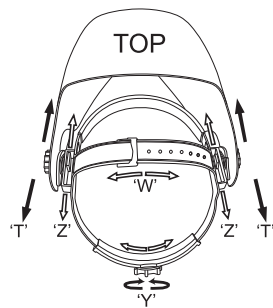

Fig.1
- Loosen the block nut on either side of the helmet and slide it nearer or further from your face. (See adjustment "Z" in fig.1). It is important that your eyes are each the same distance from the lens. Otherwise the darkening effect may appear uneven. Re-tighten the block nut when complete the adjustment.
- Adjusting view angle position (see fig. 1)
- The overall circumference of the headband can be made larger or smaller by rotating the knob on the back of the headband. (See adjustment "Y" in fig.1) This can be done while wearing the helmet and allows just the right tension to be set to keep the helmet firmly on the head without it being too tight.
- If the headband is riding too high or too low on your head adjust the strap which passes over the top of your head. To do this release the end of the band by pushing the locking pip out of the hole in the band. Slide the two portions of the band to a greater or lesser width as required and push the locking pip through the nearest hole (See adjustment "W" in fig. 1).